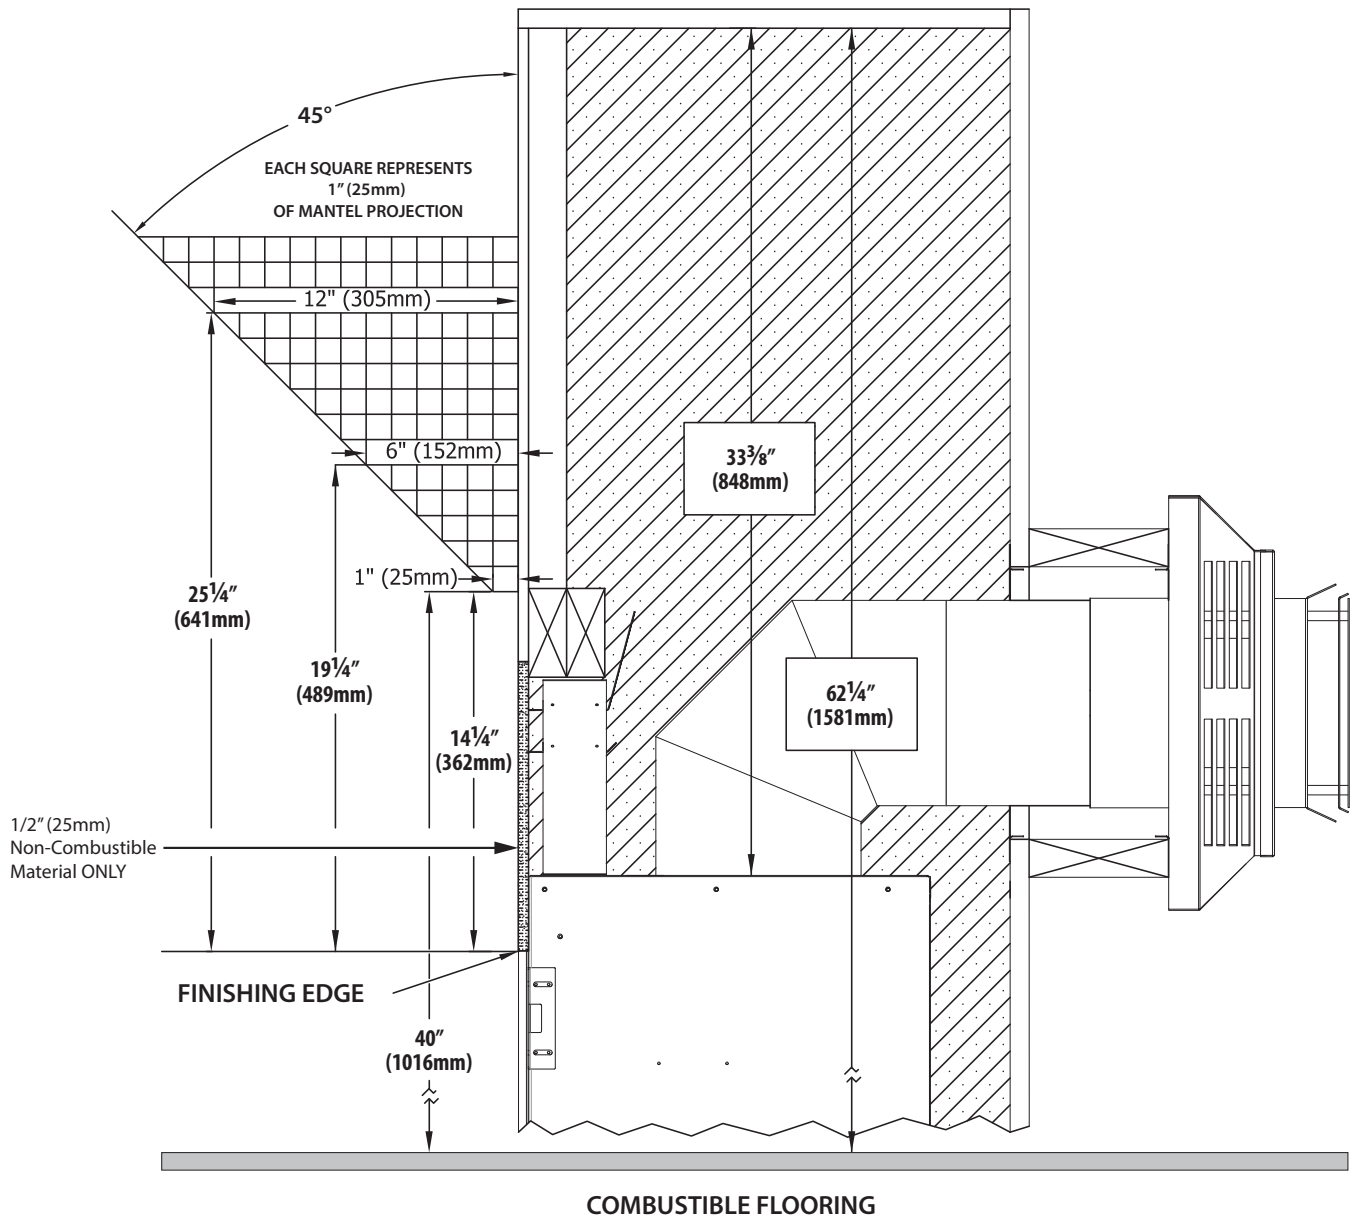

FIGURE 4.1 Mantel Clearances
- Combustible Mantel Projections - As referenced in **FIGURE 4.1** on page 21, the 1" (25mm) mantel can start at 14-1/4" (362mm) above the finishing edge. Mantel projections can increase 1" (25mm) of depth for every 1" (25mm) of height starting at the 1" (25mm) mantel.